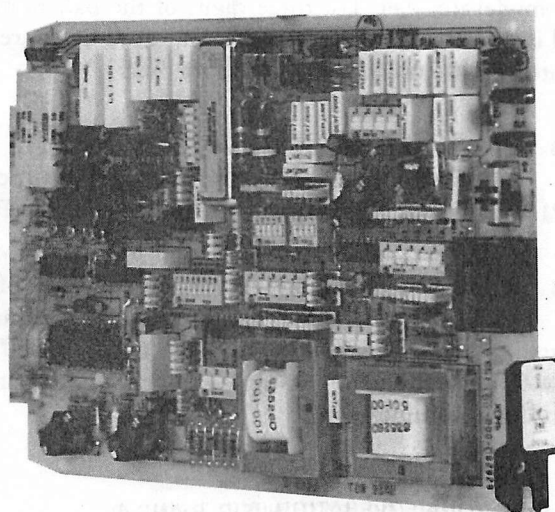
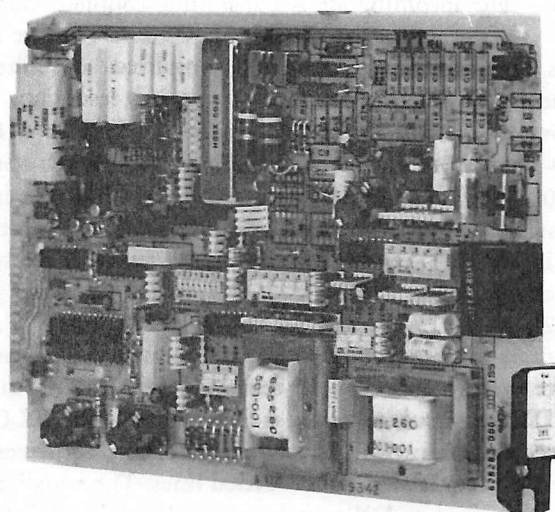

Fig. 1—4WDX/VF Channel Unit, 628280
Fig. 2—4WDX Channel Unit, 628285
1.01 This Section provides a general description of the ITT D448 4-wire duplex with VF response equalizer (4WDX/VF) channel unit, 628280 (Fig. 1), and 4-wire duplex (4WDX) channel unit, 628285 (Fig. 2), to the functional block diagram level.
6.01 A description of the test and maintenance features of the unit is provided in Table A. Refer to Fig. 1 and 2 for the physical location of these features.